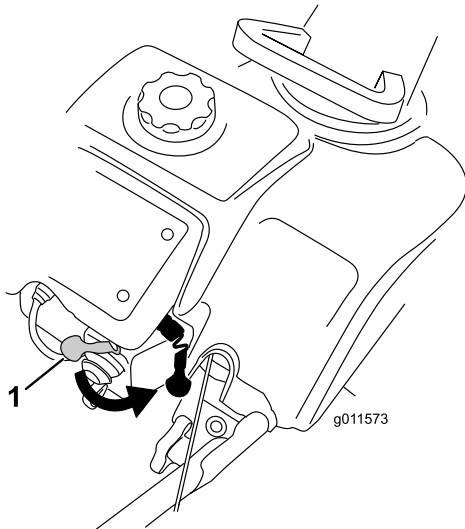

Figure 18
2. Move the choke lever fully to the right (Figure 18).